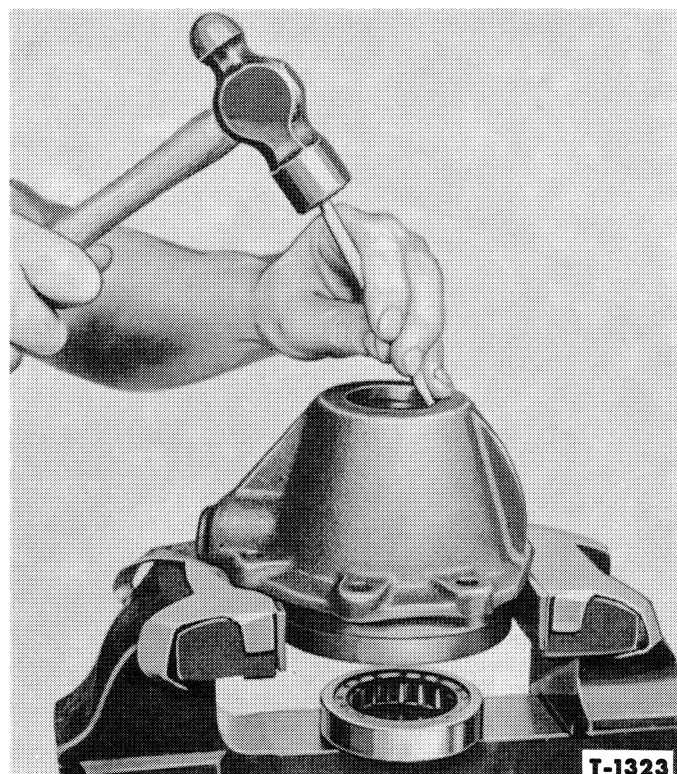

Figure 22—Removing Roller Bearing
1. Remove the roller bearing using a punch and hammer, Figure 22.